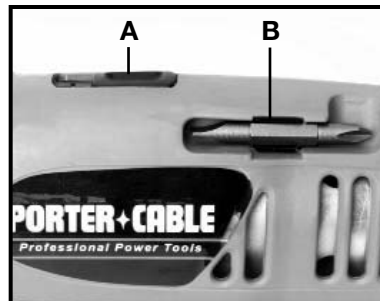

Fig. 4
The Model 884 Cordless Driver/Drill has a two-speed gear shift which provides spindle speed ranges of approximately: 0 to 450 RPM (LOW) and 0 to 1450 RPM (HIGH). To change speed ranges: release trigger switch to stop motor and then slide speed selector (A) Fig. 4, toward rear for HIGH speed or toward front for LOW speed.
Convenient storage areas with retaining clip (B) Fig. 4, for screwdriver bits are provided on each side of the tool.